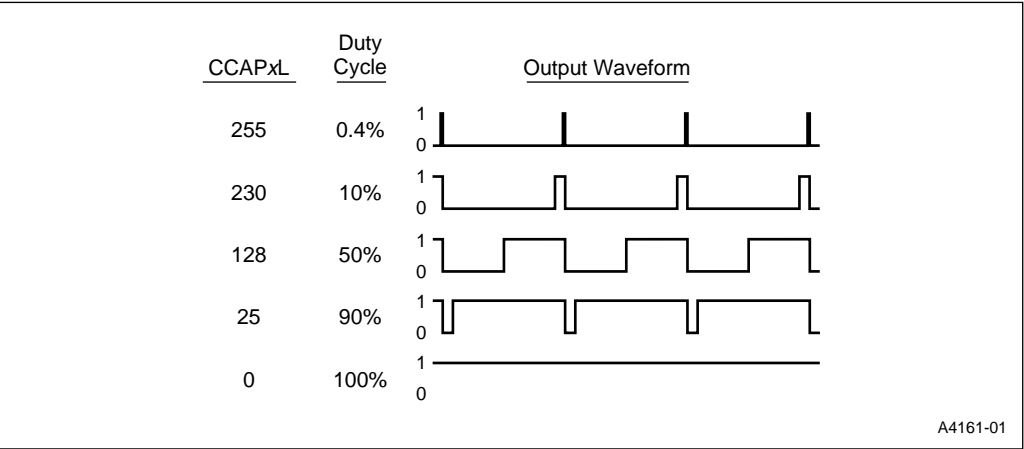

Figure 11-6. PWM Variable Duty Cycle
In this mode the value in the low byte of the PCA timer/counter (CL) is continuously compared with the value in the low byte of the compare/capture register (CCAPxL). When $CL < CCAPxL$, the output waveform (Figure 11-6) is low. When a match occurs ($CL = CCAPxL$), the output waveform goes high and remains high until CL rolls over from FFH to 00H, ending the period. At rollover the output returns to a low, the value in CCAPxH is loaded into CCAPxL, and a new period begins.
The value in CCAPxL determines the duty cycle of the current period. The value in CCAPxH determines the duty cycle of the following period. Changing the value in CCAPxL over time modulates the pulse width. As depicted in Figure 11-6, the 8-bit value in CCAPxL can vary from 0 (100% duty cycle) to 255 (0.4% duty cycle).